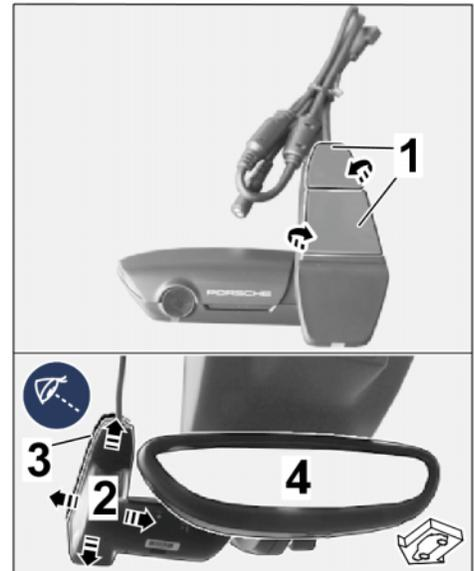

Figure 10
2.2.4 Peel protective film off front camera mounting plate. ⇒ *Figure 10-Top-*
Align front camera with mounting plate symmetrically over the 3M privacy film. ⇒ *Figure 10-Bottom-*